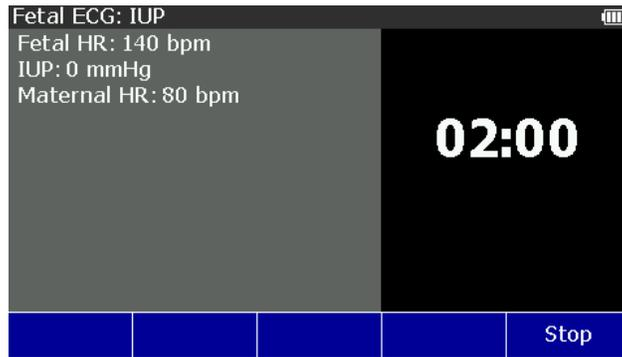

Figure 15. Fetal ECG Intrauterine Pressure Screen
5. To start a contraction, push the **Start** softkey. The screen below shows in the display and updates with real-time simulation data. The time until the contraction ends is also shown in the display. See Figure 15.